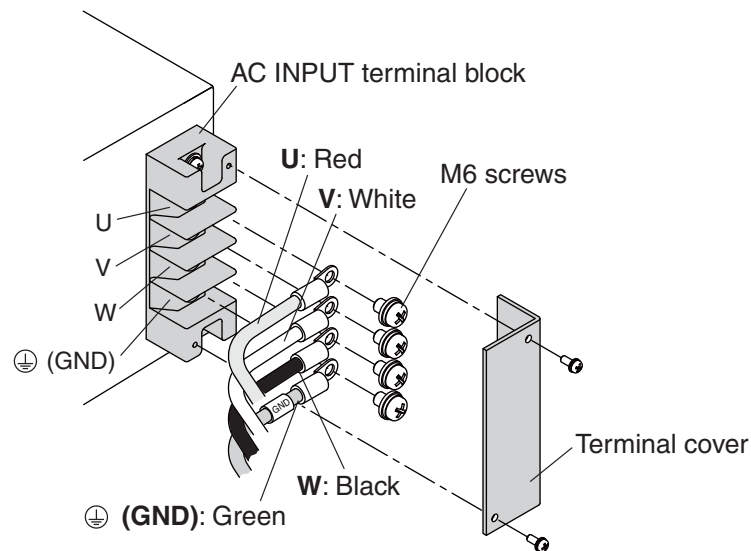

Fig.2-4 Connecting the power cable (example in which the optional power cable is used)
- 3 Connect the power cable to the AC INPUT terminal block as shown in Fig.2-4